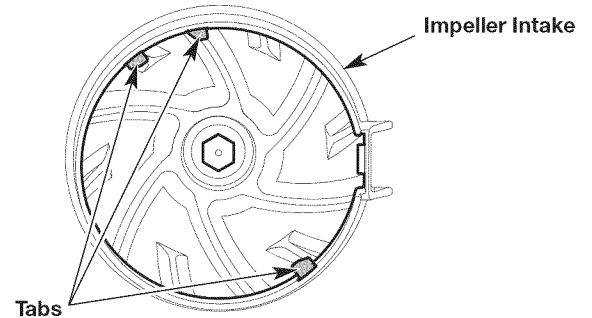

Fig. 6
2. While holding the impeller door open, align the slots on the upper vacuum tube with the tabs in the impeller intake (Fig. 6).